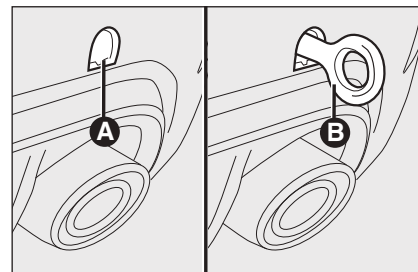

fig. 43
- ☐ release the cap **A** (only present in the rear section Fig. 43);